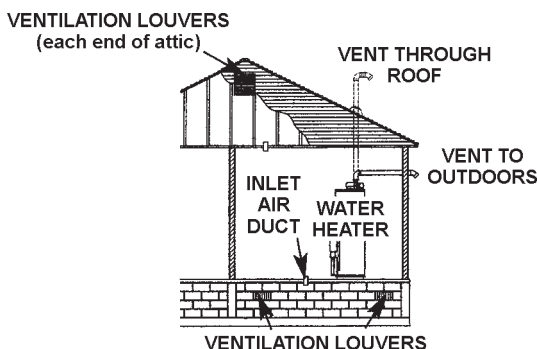

FIGURE 12.
B. ALL AIR FROM OUTDOORS: (See Figures 12, 13 and 14)
1. When directly communicating with the outdoors, each opening shall have a minimum free area of 1 square inch per 4,000 Btu per hour (5.5 cm²/kW) of total input rating of all equipment in the enclosure, see Figure 12.